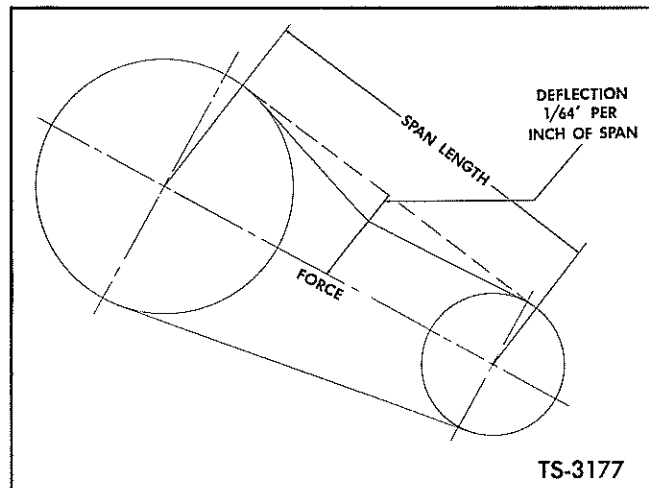

Fig. 13. Check Belt Tension — G.M. Diesel
2. At the center of the span, apply force with a spring scale (at right angles to the span) large enough to deflect the belt  $\frac{1}{64}$  inch per inch of span. Refer to Figure 13.